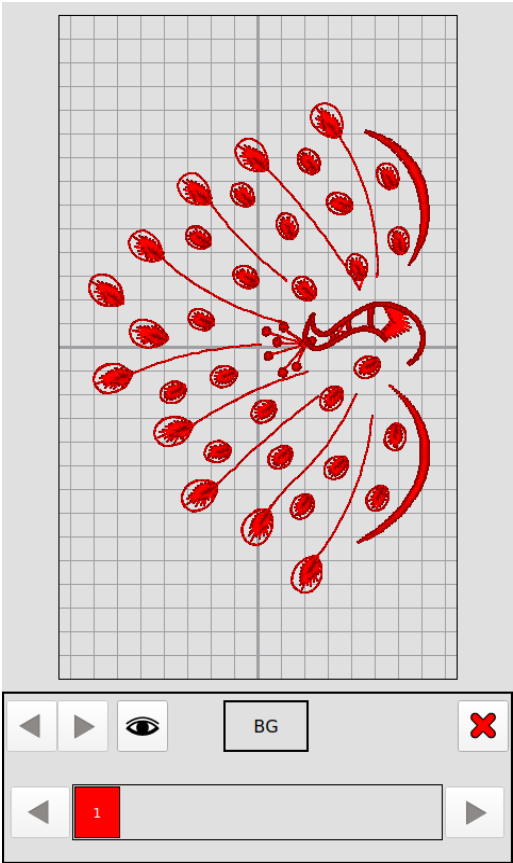
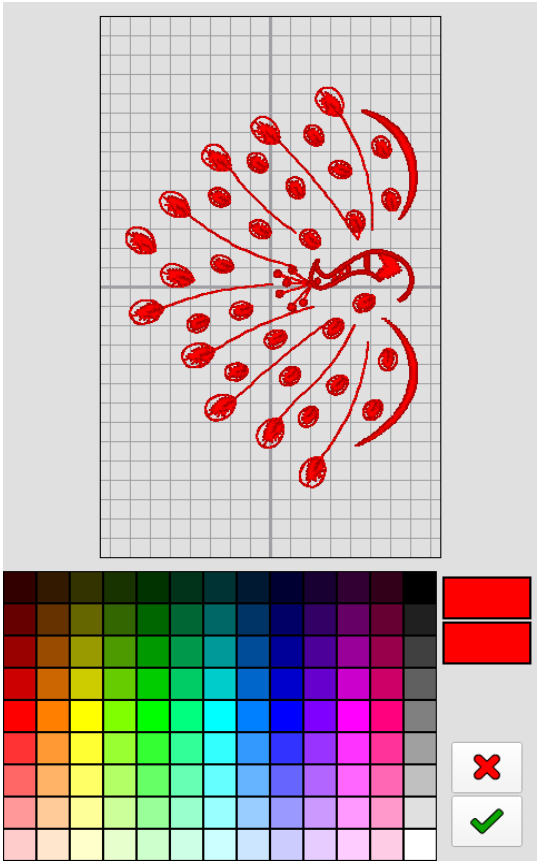

Figure 5
Figure 6
- (1) Click h to edit color, enter the interface in Figure 5, click the view button, enter the interface shown in Figure 6